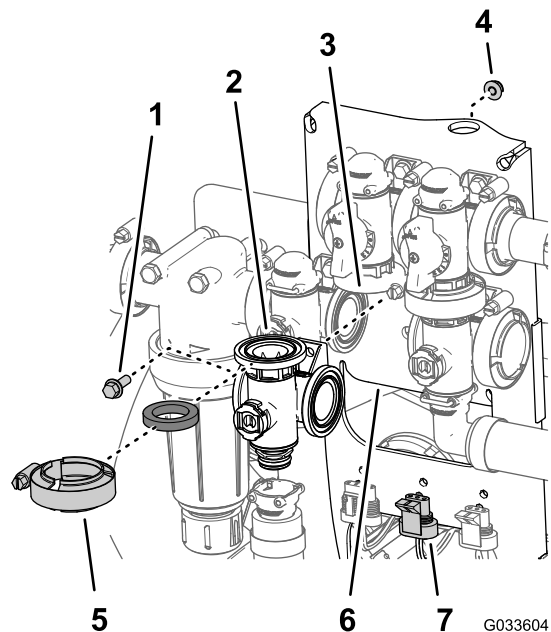

Figure 124
1. Align the flange of the agitation-valve manifold, a gasket, and the flange of the agitation bypass valve (Figure 124).
9. Assemble the agitation valve to the valve mount with the flanged-head bolt and flanged locknut (Figure 124) that you removed in step 3 of Removing the Agitation Manifold Valve (page 78) and torque the nut and bolt to 10 to 12 N·m (90 to 110 in-lb).